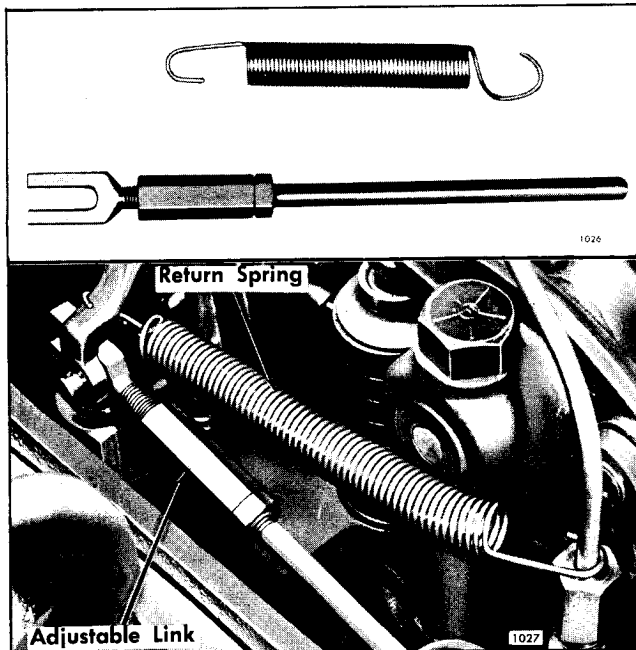

Fig. 4 - Injector Rack with Adjustable Link and Spring Installed
NOTE: Governor to control tube link is removed and engine speed must be controlled by hand or temporary adjustable link and spring at control lever tube, Fig. 4.
- A. If an adjustable link has been used, it should be removed, Fig. 4.
- C. Start the engine and control the speed manually by exerting force against the torsion spring (36) with a finger.